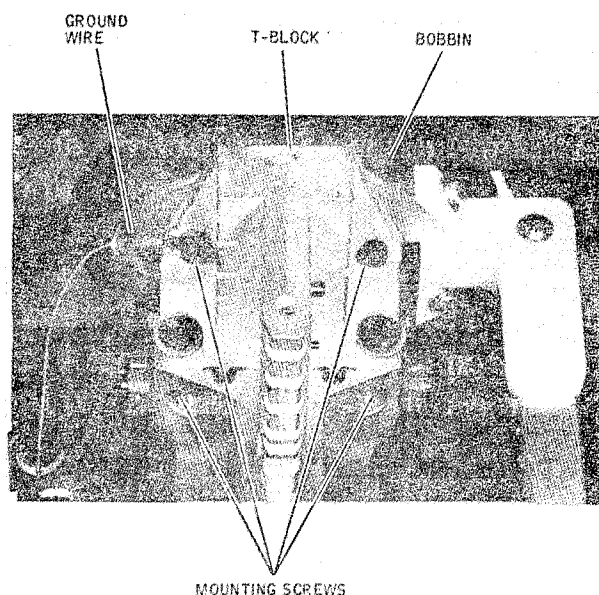

Figure 4-1. Bobbin Mounting Screw Location
6. Note the location of the ground wire, and remove the four screws that hold the bobbin to the T-block (Figure 4-1). When reinstalling the bobbin, verify that the ground wire is reconnected, and perform the Motor Bobbin Alignment procedure (paragraph 3.7.7).